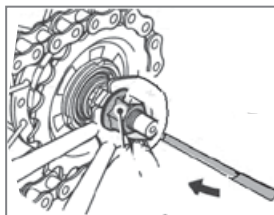

Fig. 66. Pushing bolt installations
3. Install the pushing bolt, Fig. 66.